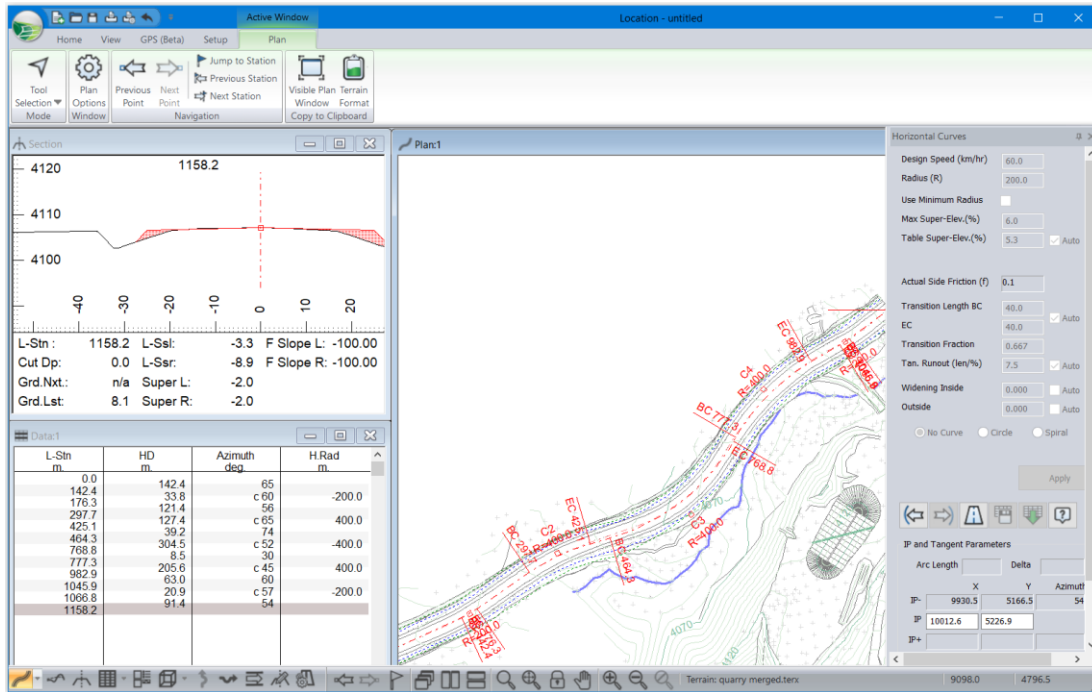

Figure 13 – Design in Location with Windows Rearranged.
19. Re-arrange the windows *View | Cascade*. Arrange and resize the windows such that they appear like they are in Figure 13.